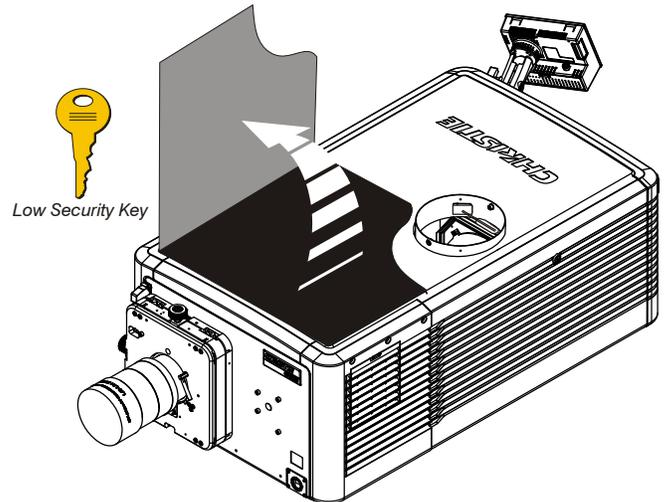

Figure 5-2 Front Top Lid
1. Unlock front top lid using the low security key provided (**Figure 5-2**).